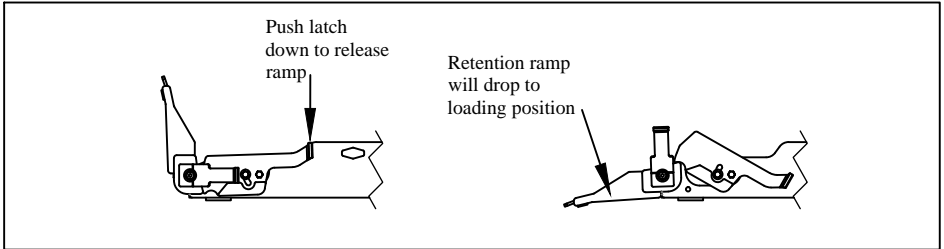

Figure 3: Loading position.
- Step 7.** To lower the retention ramp, push down on the latch handle with your hand or foot (Figure 3).